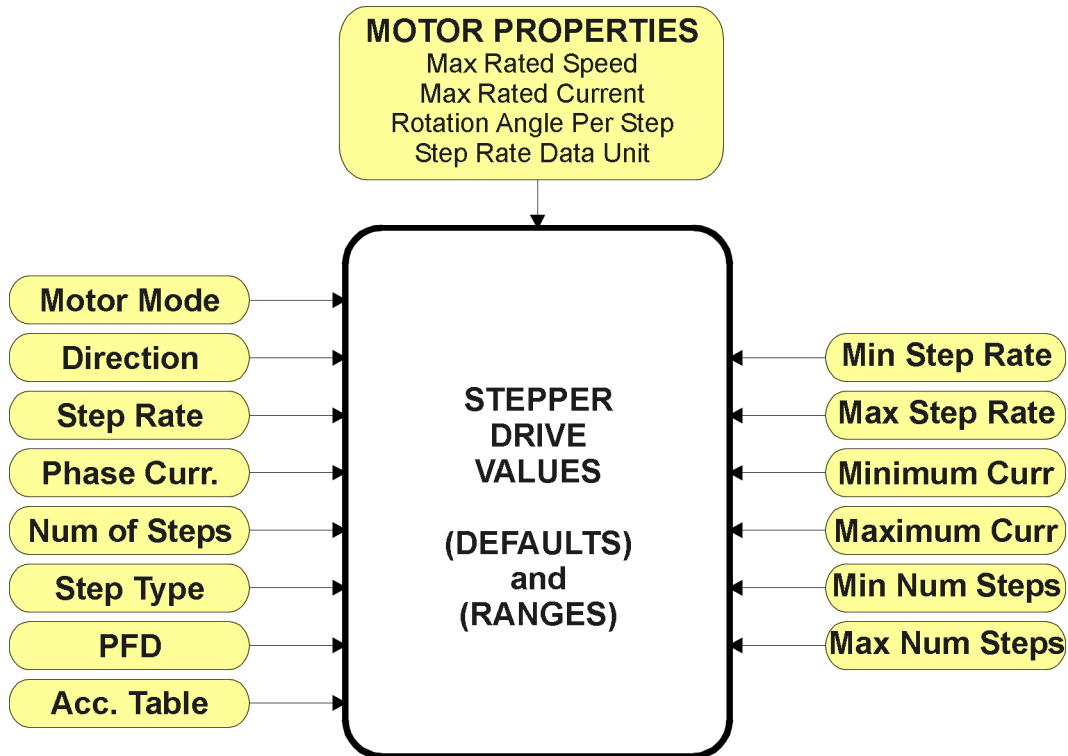
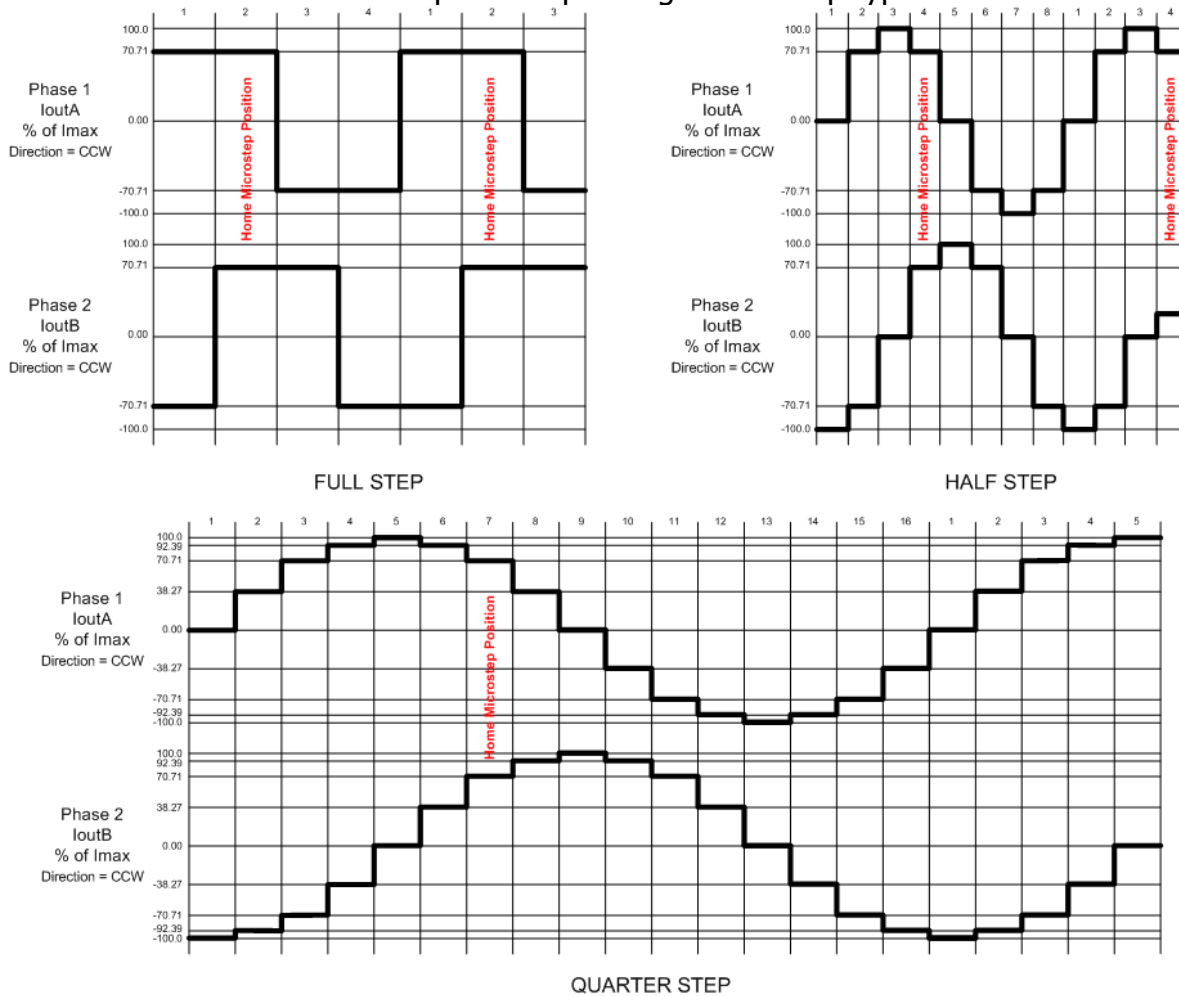

Figure 2. Stepper Drive Values Function Block
Figure 5. Full, Half and Quarter-Step Waveforms
**NOTE:** In the **"Step Rate"** setpoints, a 'Step' is interpreted as the full 360° cycle as shown in Figure 5 and Figure 6. Sixteenth-Step Waveforms (i.e., from Home position to Home position)
**NOTE:** In the **“Number of Steps”** setpoints, a ‘Step’ is interpreted as a 90° shift of the rotor with respect to the driving phases. There are always 4 steps per 360° cycle as shown in Figure 5 and Figure 6. Sixteenth-Step Waveforms.
Mixed Decay Operation. If the voltage on the PFD input is between  $0.6 \times V_{DD}$  and  $0.21 \times V_{DD}$ , the bridge operates in Mixed decay mode, as determined by the step sequence (shown in Figure 2-Figure 5). As the trip point is reached, the device goes into Fast decay mode until the voltage on the RCx terminal decays to the same level as voltage applied to the PFD terminal. The time that the device operates in fast decay is approximated by:
A feature of driver chip A3979 is that it reset the output current to the micro step "Home" position as shown in Figure 5 and Figure 6. Sixteenth-Step Waveforms. To utilize this feature, the drive can receive a command from the J1939 network to reset the drive to "Home." While in reset mode, the motor will not be running.